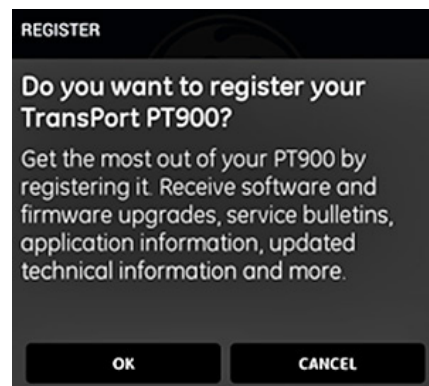

Figure 62: PT900 registration
5. At the registration screen (see *Figure 62* below), click OK to register your PT900 or click *cancel* to skip the registration.